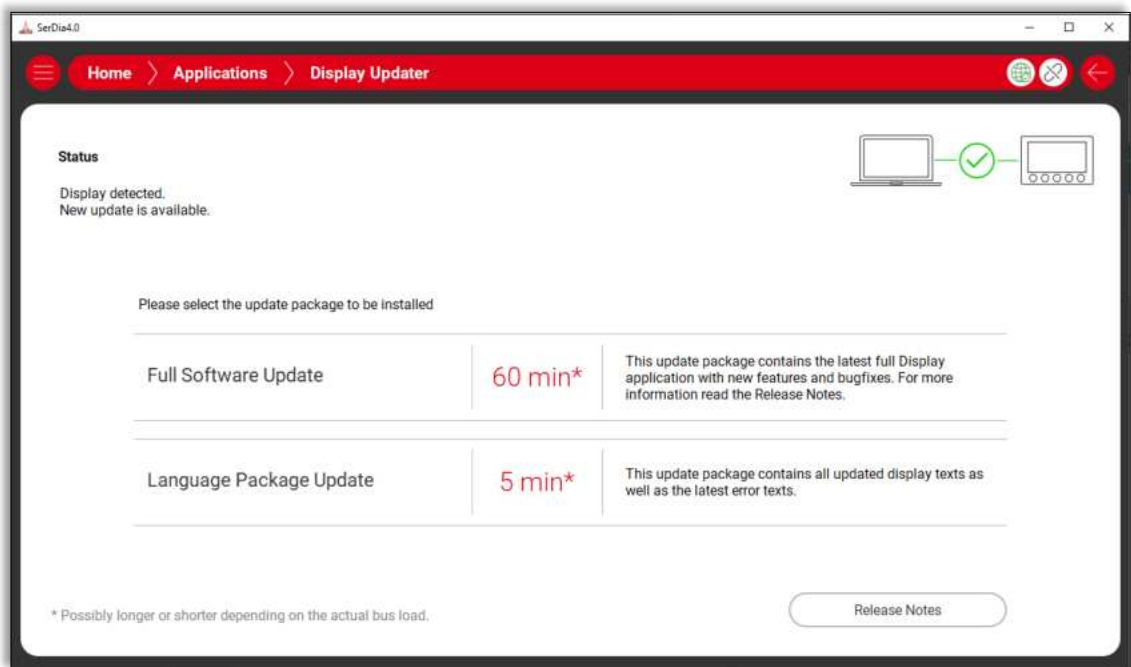

Fig. 92: Update options
- a. If a display has been detected, the possible update options are automatically displayed (Fig. 92). The following options are possible: